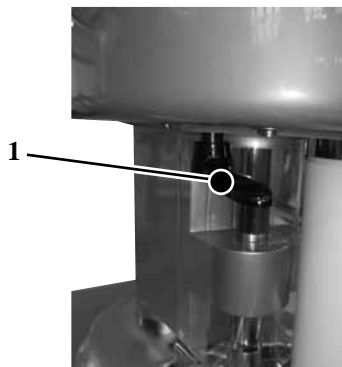
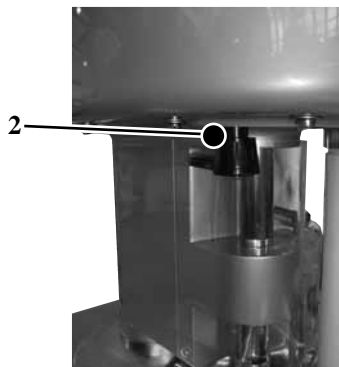

Fig. 19
Fig. 20
6. Turn the black handle from position 1 (Fig. 19) to position 2 (Fig. 20).